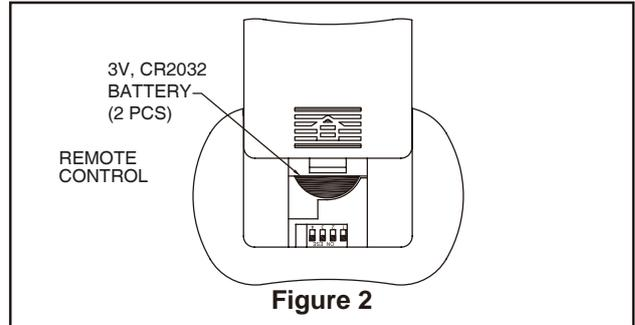

Figure 2
2. To make fan operational, install two 3-volt batteries in hand-held remote transmitter, (if not using for long periods of time, remove battery to prevent damage to transmitter). Store the remote away from excessive heat or humidity. (Figure 2)
(Including in the control).(Figure 2)